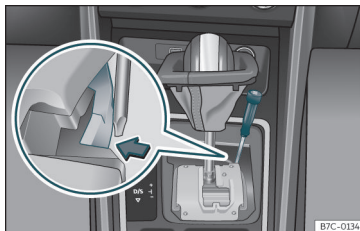

Fig. 46 Selector lever: manual release from position P.
- Using a screwdriver, press and hold the yellow unlocking tab sideways >>> **Fig. 46**.